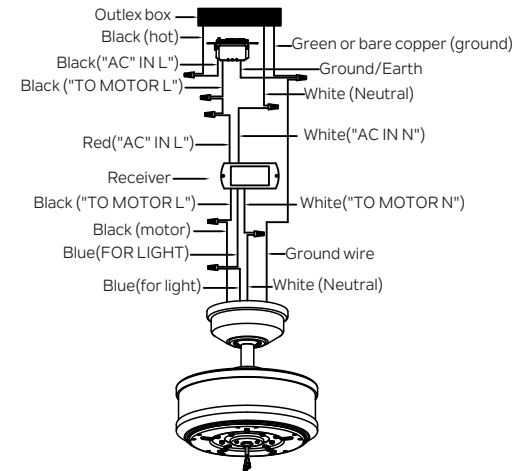

Fig. 13
**Step 2.** Motor to Receiver Electrical Connections: Connect the BLACK wire from the fan to BLACK wire marked "TO MOTOR L" from the receiver. Connect the WHITE wire from the fan to the WHITE wire marked "TO MOTOR N" from the receiver. Connect the BLUE wire from the fan to the BLUE wire marked "FOR LIGHT" from the receiver. Secure all the wire connections with the plastic wire nuts provided. ( Fig. 13)
**Step 3.** Remote Receiver to Outlet Box Electrical Connections: Connect the BLACK (hot) wire from the ceiling to the BLACK wire marked "AC in L" from the wall control. Connect the WHITE (Neutral) wire from the ceiling to the WHITE wire marked "AC in N" from the receiver. Connect the BLACK (To Motor L) wire from the wall control to the RED wire marked "AC in L" from the receiver. Secure the wire connections with the plastic wire connectors provided. (Fig. 13)
**Step 4.** If your outlet box has a ground wire ( green or bare copper ) connect it to the fan ground wire : otherwise connect the fan ground wire to the mounting bracket. Secure the wire connection with a plastic nut provided. After connecting the wires, spread them apart so that the green and white wires are on one side of the outlet box and black and blue wires are on the other side. (Fig. 13)